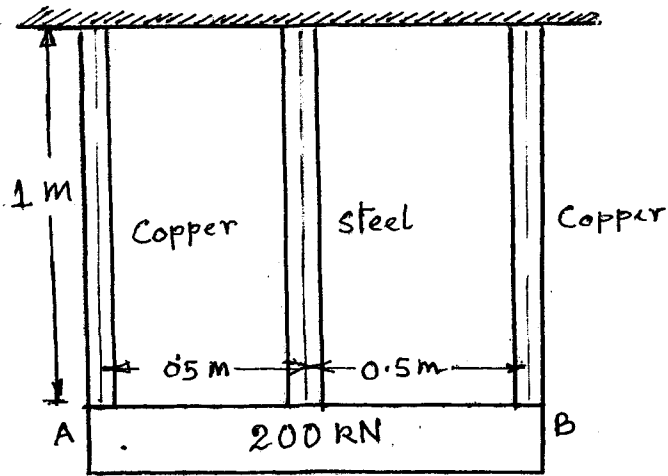

Fig. Q.2
- Q.2. A horizontal rigid bar AB weighing 200 kN is hung from ceiling by three vertical rods, each 1 m length and 500 mm^2 in cross-section as shown in Fig.Q.2. If the temperature rise is 40°C , estimate the load carried by each rod and also determine the vertical displacement of the bar AB.